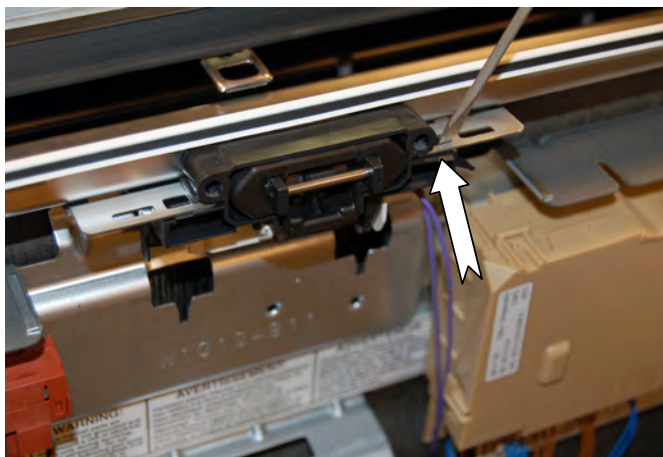

Figure 1
4. To remove latch assembly, insert a small flat-blade screwdriver into the clip slots on each side of the latch. Gently push in to release latch clips, see figure 1 and 2.